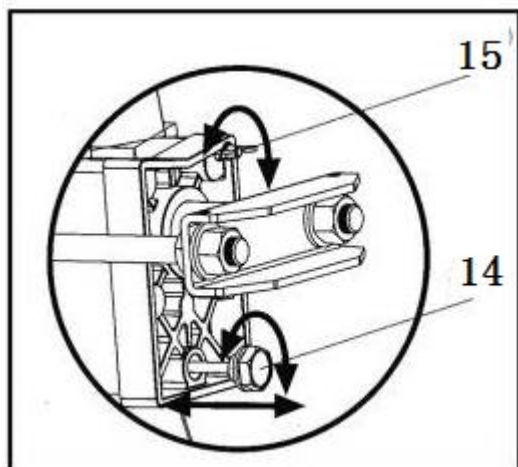

Fig.6
**Before operating the log splitter, the Bleed Screw (15) Fig. 6, should be loosened by some rotations until air can go in and out of the oil tank smoothly.**
2. Unscrew oil drain bolt (14 ) (fig.6) with dipstick to remove it.